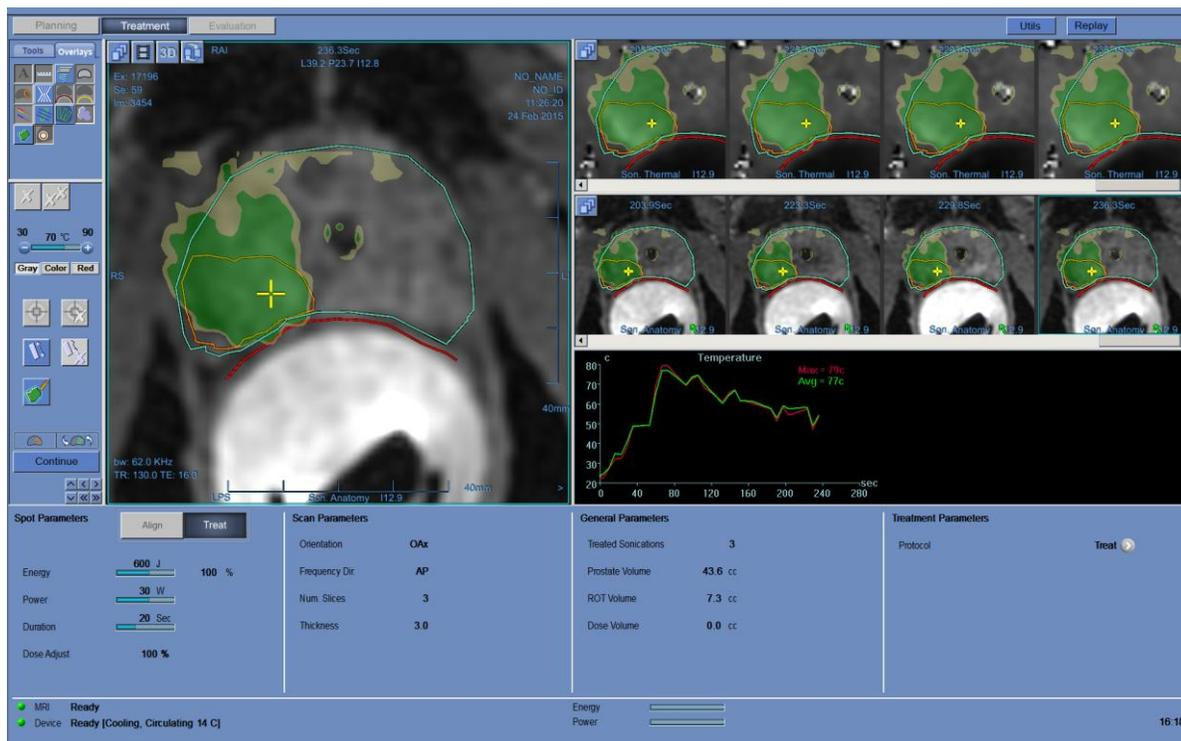

Figure 7-4: Thermal Evaluation Screen Elements
6. After the sonication, the **Thermal Evaluation** screen opens with the actual thermal dose contours overlaid on the image (see Figure 7-4). Review the results as described in **Thermal Dose Verification** (see Section 7.4.4).